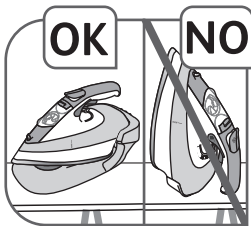

Fig. 13
- Do not place the iron on its heel during the resting period, but on its base – fig.13.